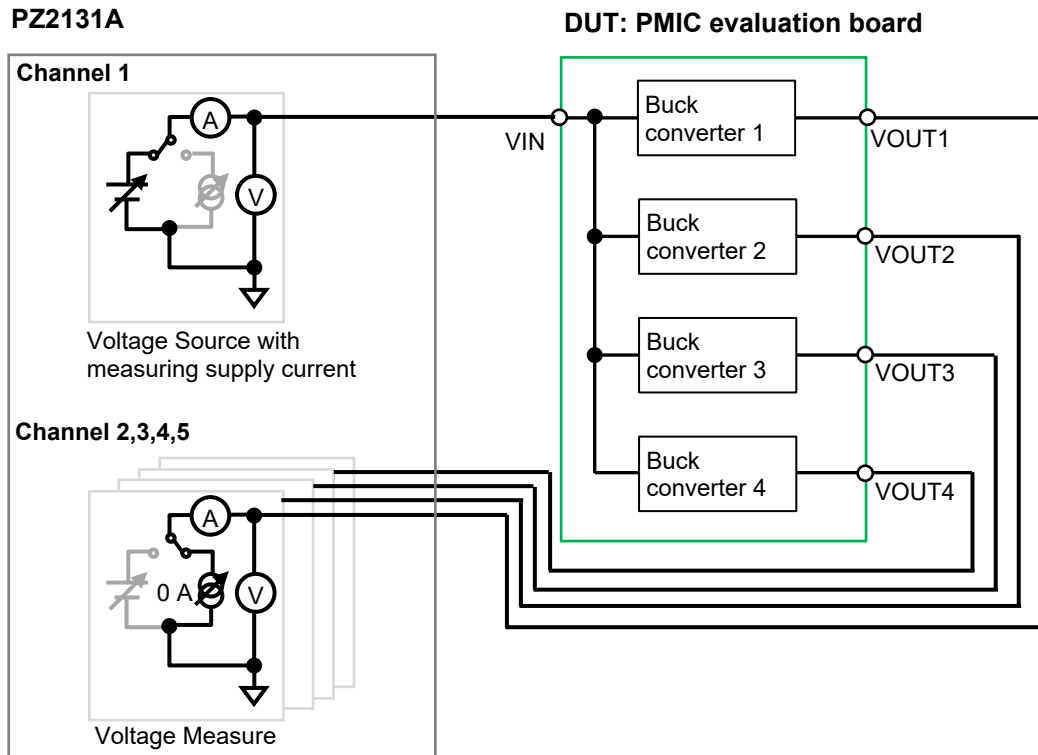

Figure 5. Connection diagram between a PZ2131A and a Power Management IC (PMIC) evaluation board
- Figure 5 shows the connection diagram between a PZ2131A and a PMIC evaluation board.